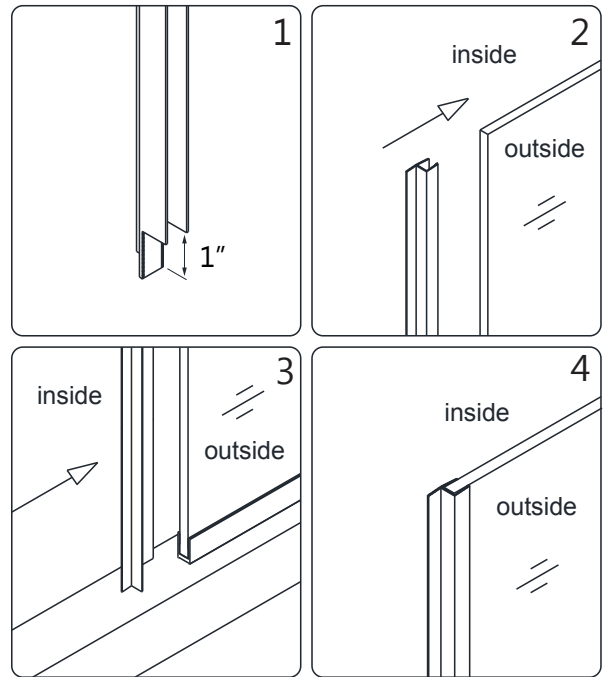

Fig 19
18. Notch 1" off of the bottom of the **Flanged anti-water strip (#33)** to fit around bottom U-channel. Press the **Flanged anti-water strip (#33)** onto the vertical edge of the **Stationary glass (#11)**. (**Fig 19**)